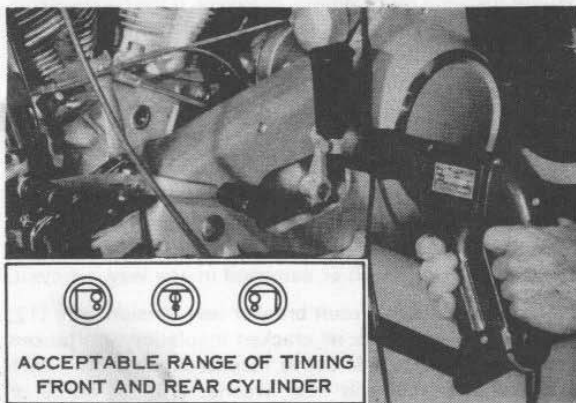

Figure 5-20. Checking Timing with Strobe Light
With engine running cam will automatically advance above idle speed. To check advanced spark timing, operate engine at 2000 rpm using Strobe light timing light to view advanced timing mark (see Figure 5-20). Timing light leads should be connected to front spark plug, ground, and positive red wire to battery terminal. A clear plastic Timing Hole Plug, Part No. 96295-65 is available for screwing into the crankcase hole for viewing the flywheel timing mark to prevent oil spray while the engine is running. Adjustment in timing is made with the engine running by loosening circuit breaker stem clamp slightly and rotate head into correct position as described previously.
CHECKING TIMING WITH STROBE TIMING LIGHT (Figure 5-20)
Rear cylinder advance timing mark is a double dot which should appear on or near the front cylinder advance timing mark while viewing with timing light. See Figure 5-20.
With flywheel ignition timing mark in center of timing hole in crankcase, observe how close timing marks on cam lobe lines up with breaker lever fiber. If fiber is not close to cam lobe timing mark, lift circuit breaker assembly and turn shaft gear in correct direction so engagement with driving gear is changed one tooth and reinstall circuit breaker in gearcase to get approximately close alignment of fiber and cam mark. Reinstall stem clamp (29, Figure 5-20) and tighten clamp bolts (30) being sure cam mark and fiber are still in alignment.